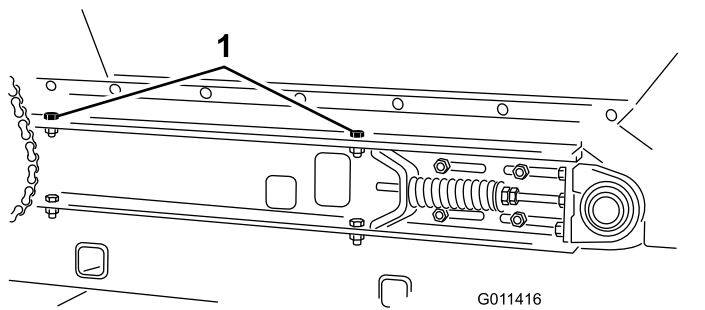

Figure 32
4. Remove 2 cap screws, washers, and nuts on each side of the machine, securing the hopper to the slider bed (Figure 32).